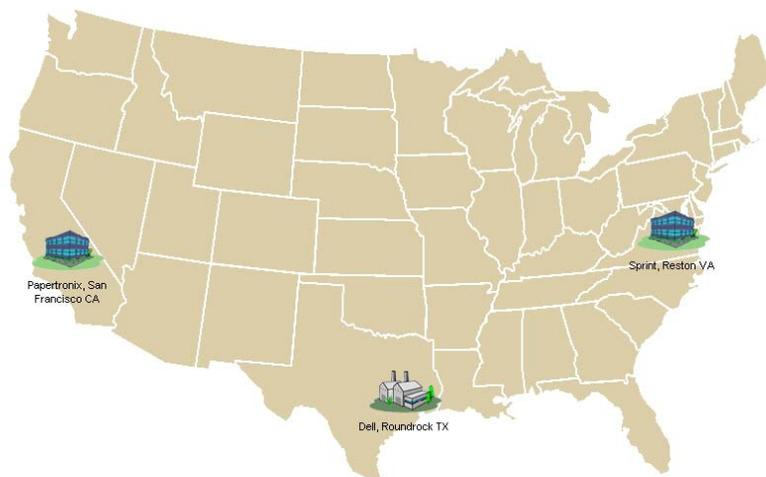

Figure 1. Place the suppliers on the map.
- 2) Place the suppliers on the map. (Figure 1)